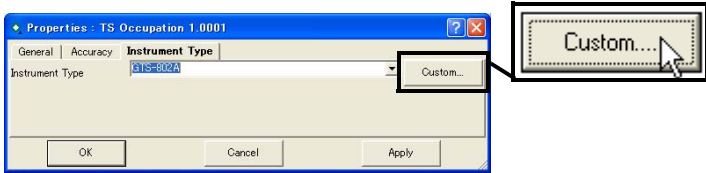

Figure 5-85. Open Custom TS Instrument List
- Click **Custom** (Figure 5-85 on page 5-56) to display the *Custom TS Instrument List*.